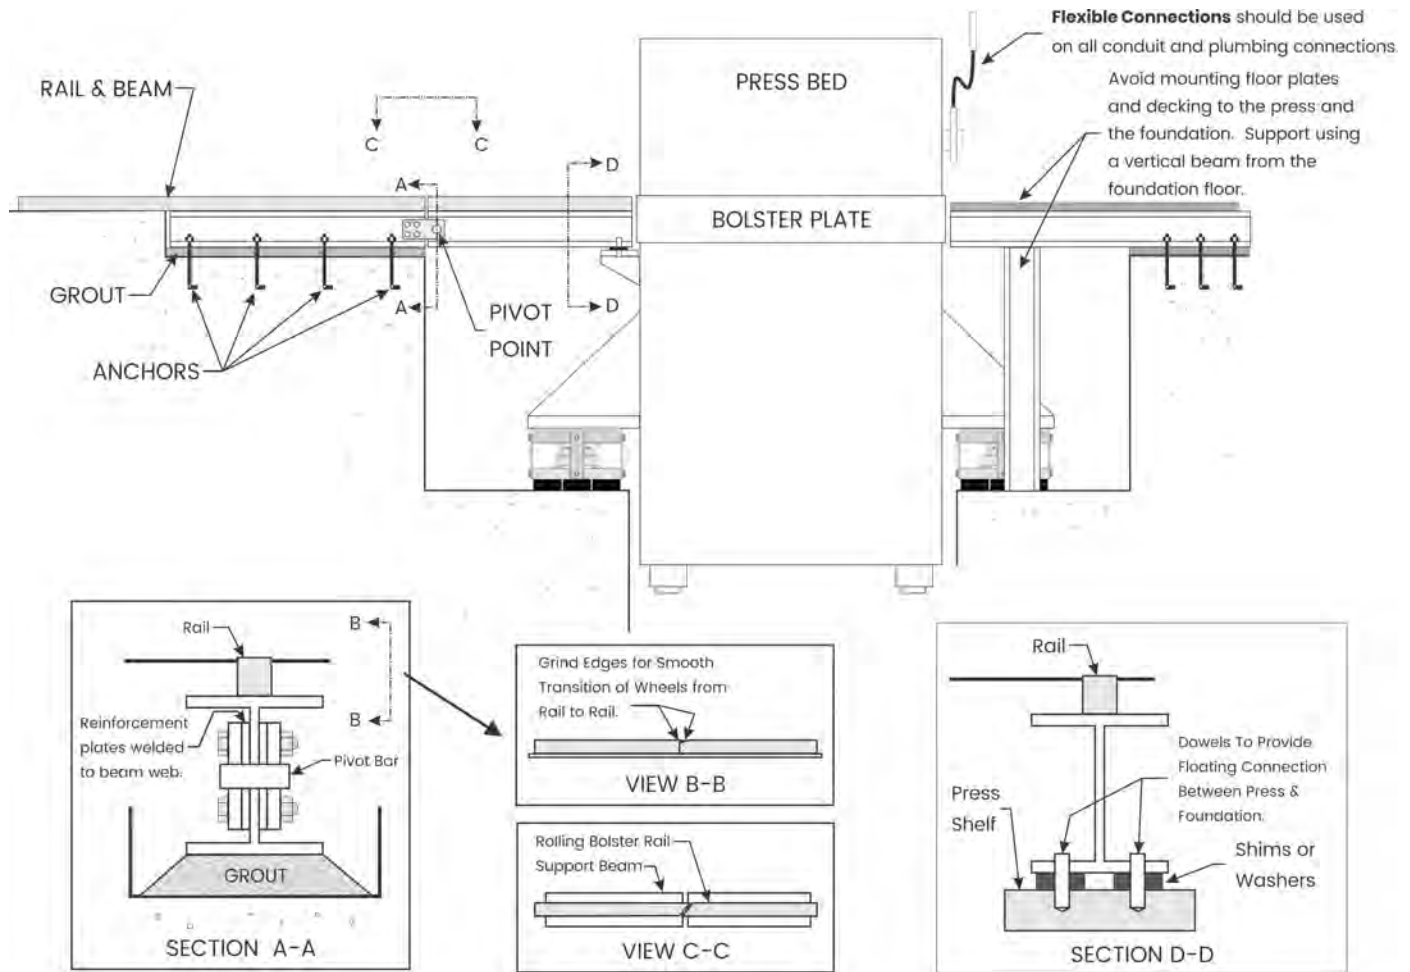

FIGURE 5
Method Two (Figure 5)
- In this method, each rolling bolster beam is divided into two. One section is anchored to the floor and the other is designed to float with the press. The ends of the floating sections are supported by pivot points located at the edge of the pit and on the press, bed as shown in Figure 5. The beam/rails are restricted from moving horizontally using guide pins and clearance holes or stops welded on the support shelf to contain the sides of the beam/rails.